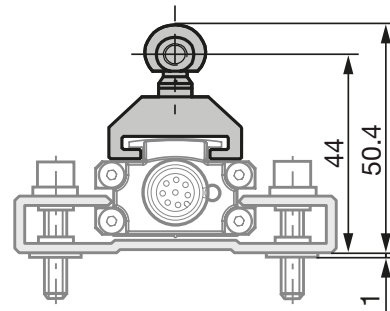
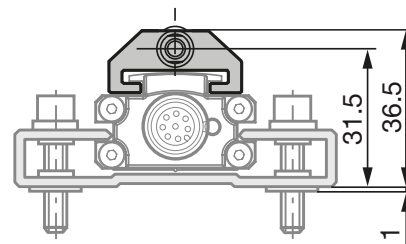
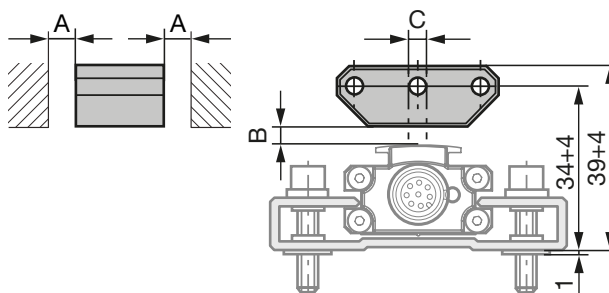
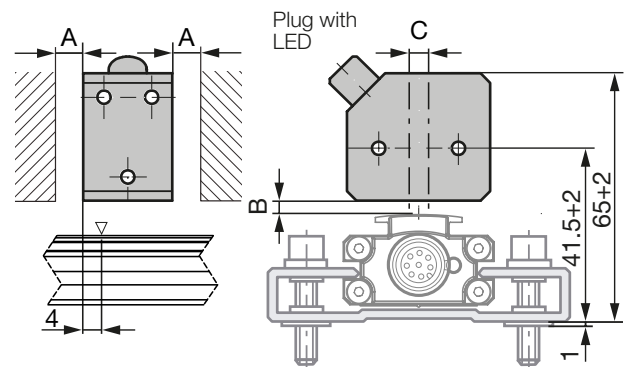

Fig. 4-2: Dimensions and distances with BTL5-F-2814-1S magnet
Fig. 4-3: Dimensions and distances with BTL5-T-2814-1S magnet
Fig. 4-4: Dimensions and distances with BTL5-P-3800-2 magnet
Fig. 4-8: Dimensions and distances with BTL5-P-4500-1 electromagnet (24 V/100 mA)
- i** The micropulse transducer in profile housing is suitable both for floating, i.e. non-contacting magnets (see Fig. 4-4 to Fig. 4-8), and for captive magnets (see Fig. 4-2 and Fig. 4-3).
- Ensure that the distance A between the magnets and parts made of magnetizable material is at least 10 mm (see Fig. 4-4 to Fig. 4-8).
- Maintain the following values for distance B between the magnet and transducer and for center offset C (see Fig. 4-4 to Fig. 4-8):
Tab. 4-1: Distance and offset for magnets (see Fig. 4-4 to Fig. 4-8)
The measuring range is offset by 4 mm towards the BTL plug (see Fig. 4-8).